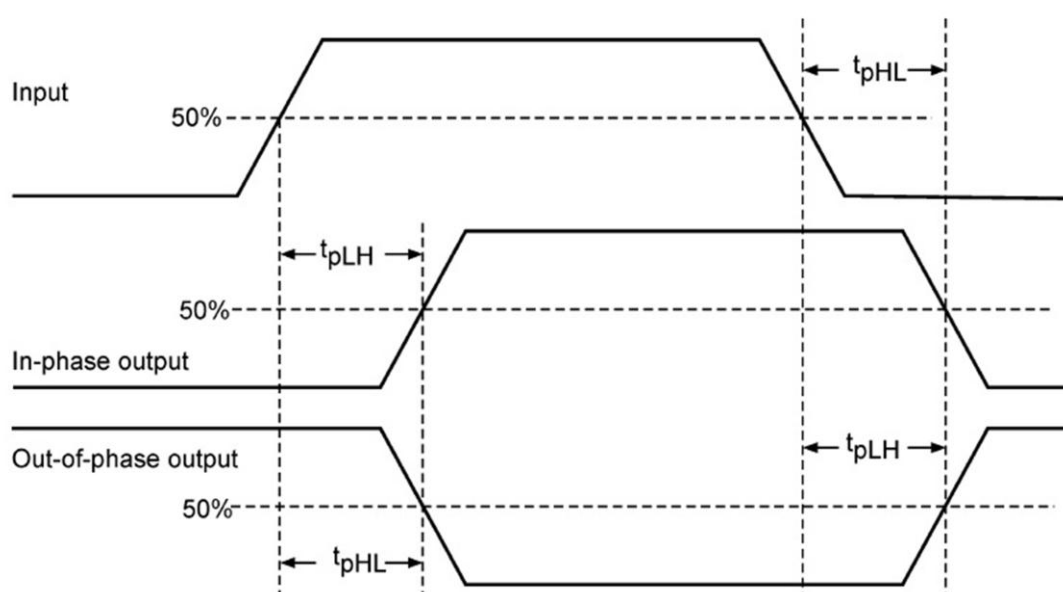

Fig.4
- 14- Propagation delay t_{pHL} . This is the time delay between specified voltage points on the input and output waveforms with the output changing from HIGH to LOW. Figure 4 shows the two types of propagation delay parameter.